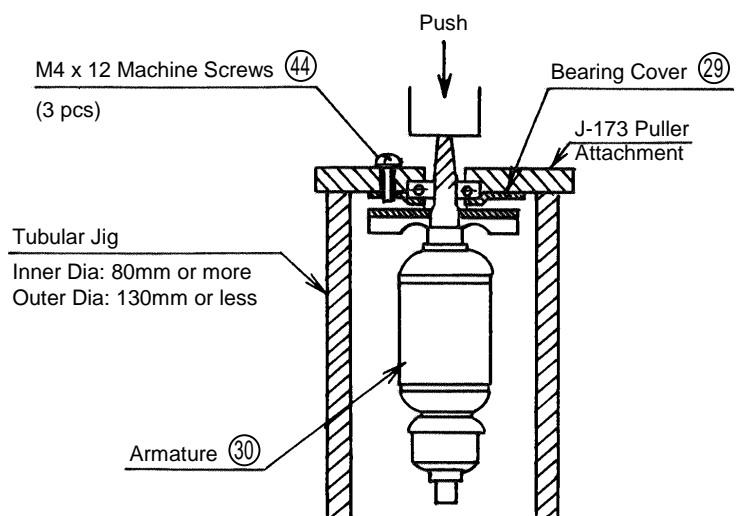

Fig. 5
(5) Disassembly of the Bearing Cover (29) from the Armature (30):
First, remove the C-Type Retaining Ring (27) from the Armature (30). Then, as illustrated in Fig.5, mount the Armature on a J-173 Puller Attachment (special repair tool, Code No. 970954), and secure it in position with the three M4 x 12 Machine Screws (44). Next, support the J-173 Puller Attachment with an appropriate tubular jig (inner diameter of 80 mm or more, outer diameter of 130 mm or less), and push down on the Pinion end of the Armature with a hand press to loosen and remove the Armature (30) from the Bearing Cover (29).
(6) Disassembly of the Gear Ass'y (21) and